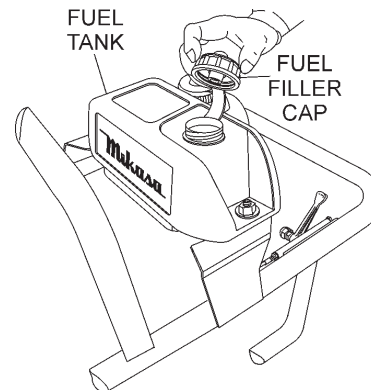

Figure 4. Fuel Tank
2. If fuel is low, remove the fuel filler cap (Figure 4) and fill with only **unleaded** gasoline. Motor fuels are **highly flammable** and can be dangerous if mishandled. **DO NOT** smoke while refueling. **DO NOT** attempt to refuel the rammer if the engine is **hot!** or **running**.